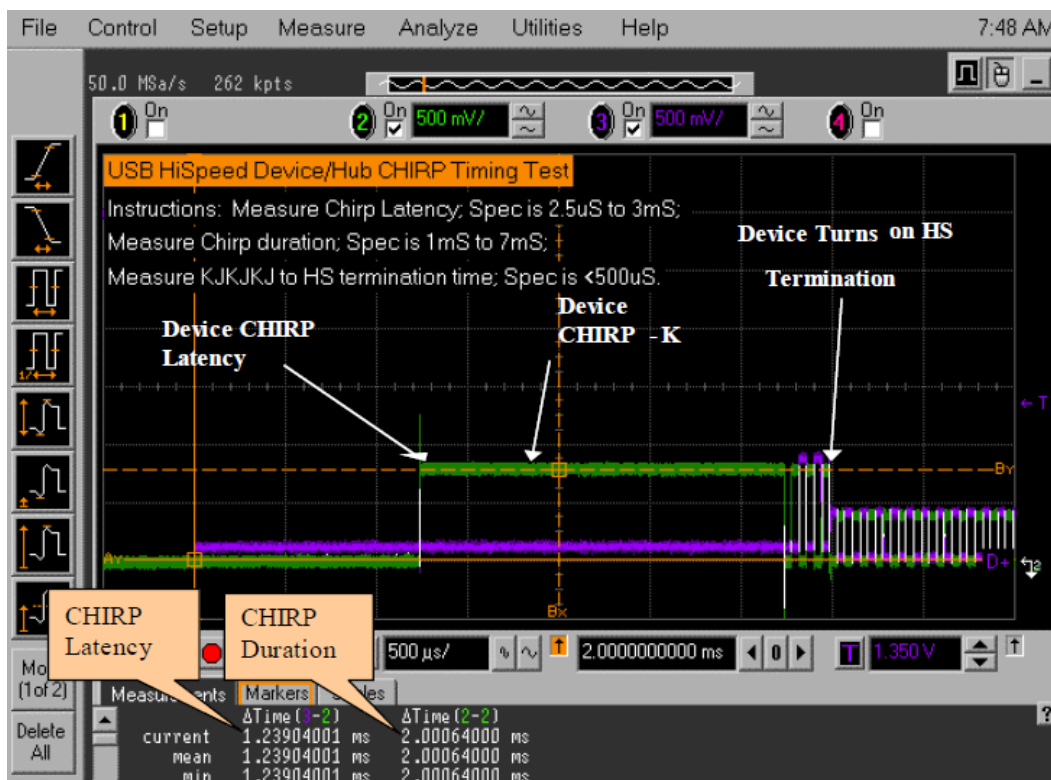

Figure 42. Device CHIRP J/K waveform
8. Click on **Enumerate Bus** on the menu of the HS Electrical Test Tool. The oscilloscope will capture and measure the Chirp handshake as shown in Figure 42.